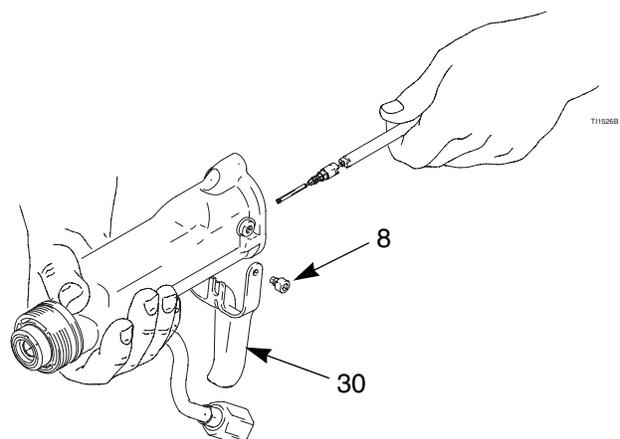

Fig. 15. Fluid Needle Replacement
8. Install the fluid needle assembly in the gun barrel. Push in on the needle with the 2 mm driver (44) and tighten. See FIG. 15.
10. Install the spring cap (45), making sure the grounding spring (55) is in place.
11. Install the trigger (30) and screws (8).
12. Install the barrel (16), page 31.